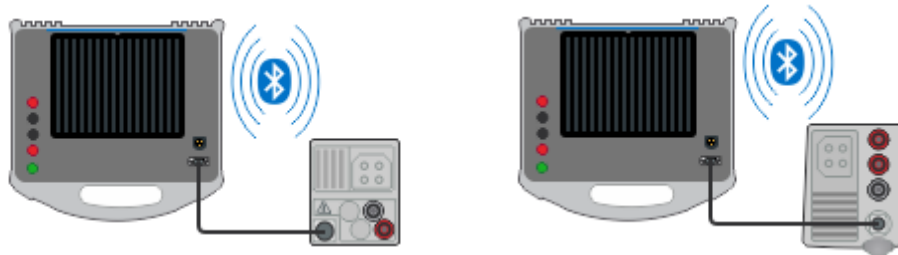

Figure 5.1: Connection of the Euro Z 800 V to the master instrument using RS 232 or Bluetooth (Example of MI 3152 and MI 3155)
- For RS 232 communication, connect serial communication interface cable RS 232_9pin_female / PS 2 to the master instrument and the Euro Z instrument. See *Figure 5.1*.